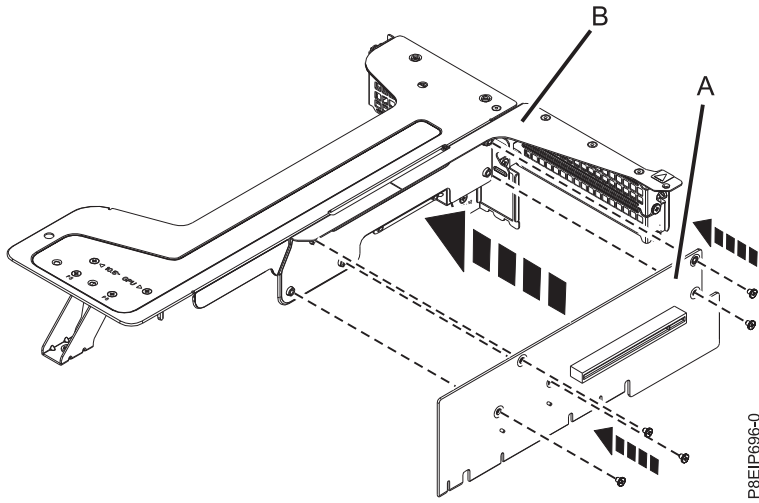

Figure 49. Replacing position 1 adapter
- a. If the riser card in position 1 needs replacing, replace it in the riser support. Replace the five screws to secure the adapter to the frame as shown in Figure 49 on page 41.